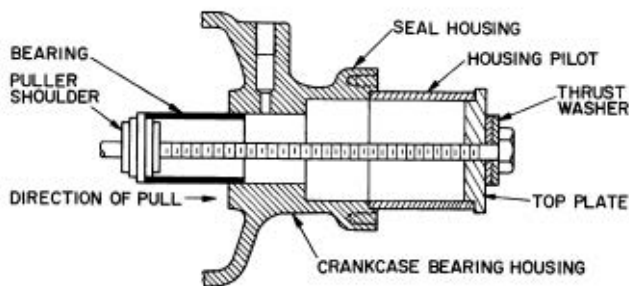

Fig. 53 — Seal-End Main Bearing (5F40, 60)
3. Press bearing into place using a puller shoulder (Table 13 and Fig. 53 and 54) and jack screw or bearing press.
With crankshaft removed, use a bearing puller with a shouldering device to remove and install seal-end main bearings (Fig. 53 and 54). Bearing pullers can be ordered through Carlyle or Totaline Parts.